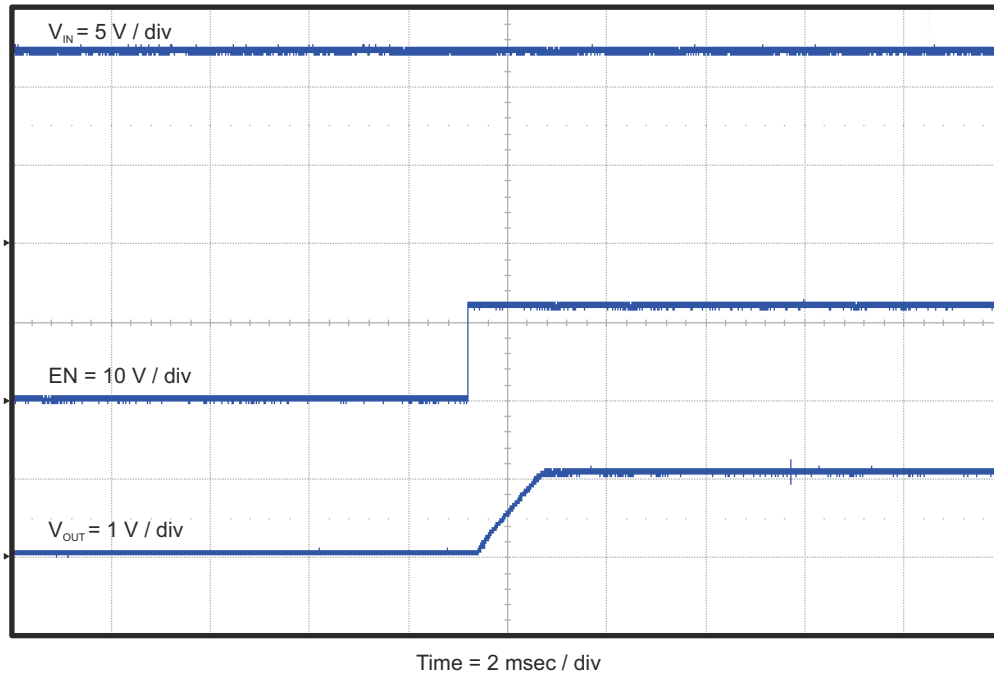

Figure 5-1. TPS54429EEVM-608 Start-Up Relative to Enable
The TPS54429EEVM-608 start-up waveform relative to enable (EN) is shown in Figure 5-1.